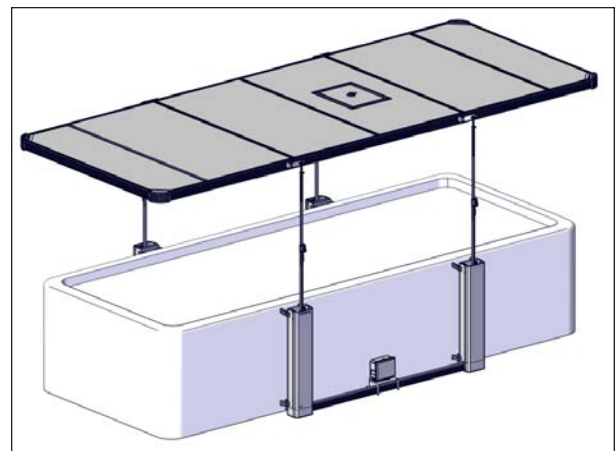

FIGURE 113: JACK RAISING
6. Raise the jacks until the system stops at its maximum limit, see Figure 113.